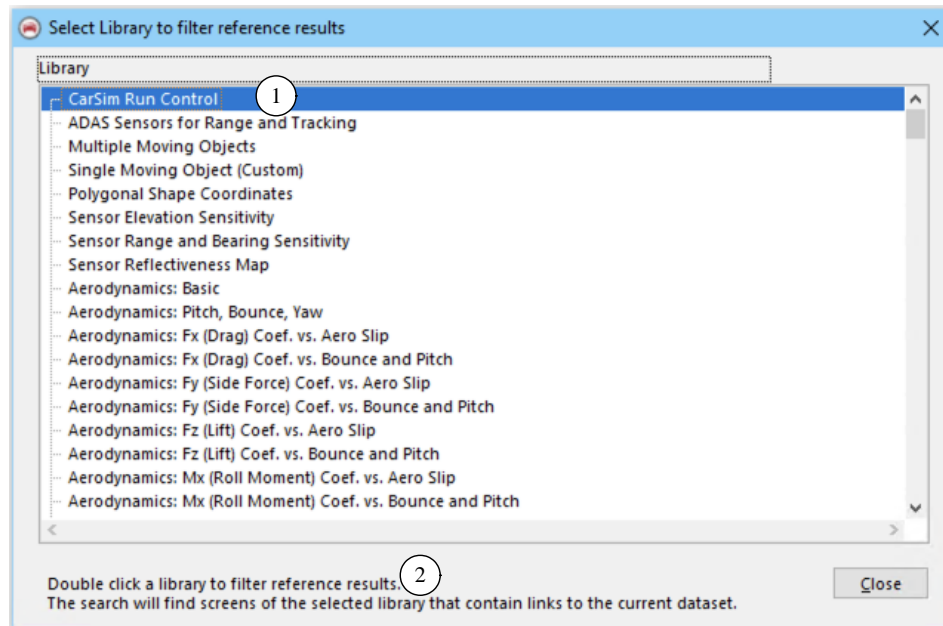

Figure 11. Select a library by double-clicking on its name.
2. You will be prompted ② (Figure 11) to select a library by double-clicking on the name in the list. Double-click the Run Control library ① (first on the list).